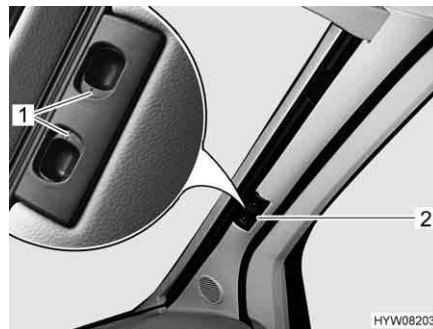

Fig. 76 Roman shade for the windscreen
- Press the release handles (Fig. 76,1) and hold them down.
- Use the handle (Fig. 76,2) to pull the Roman shade for the windscreen towards the centre of the window.
- Use the handle (Fig. 76,2) to pull the two halves of the Roman shade for the windscreen outwards as far as they will go. As you do so, lift the handle up as high as the locking recess.
- Let go of the release handles (Fig. 76,1) and let them engage.